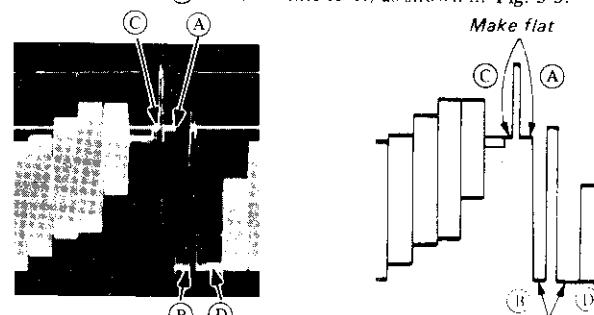

Fig. 3-3
Adjust RV1 of BH board so that the (C) (0 IRE level) coincides with (A) (Black level) as shown in Fig. 3-3.
10. Adjust RV3 of BH board so that the (D) (100% white level) coincides with (B) (100% white level) as shown in Fig. 3-3.